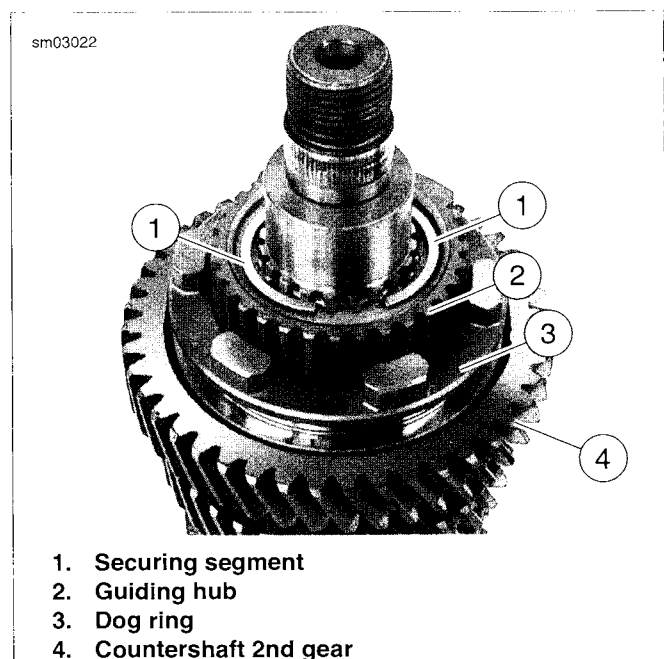

Figure 6-19. Securing Segment
5. See Figure 6-19. Remove securing segments (1). Remove dog ring (3), guiding hub (2), countershaft 2nd gear (4) and bearing.
4. See Figure 6-19. Install **new** needle bearing, countershaft 2nd gear (4), guiding hub (2), dog ring (3) and securing segments (1) on countershaft.